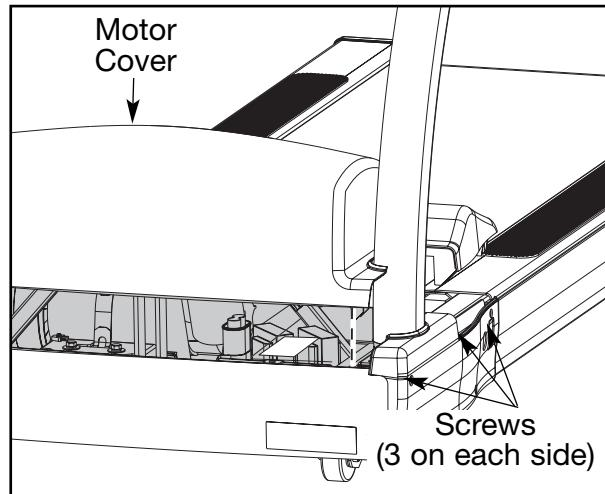

Figure 2
- Enter **Test Mode** by holding down any key on the display while turning the power switch to the on (I) position.
- Turn the main power switch on the left side to the off (O) position.
- Using a Phillips head screwdriver, loosen three screws on each motor cover side (left and right). See Figure 2.
- A.** Plug the treadmill back in and turn it to the on (I) position.
- A.** Lower the motor cover center into position. See Figure 2.
- E.** Press **Stop** and turn the power switch to the off (O) position.
- A. Using a Phillips head screwdriver, loosen three screws on each motor cover side (left and right). See Figure 2.
- B. Lift the motor cover center up and off the treadmill. The screws will stay in place. See Figure 2.
- A. Enter *Test Mode* by pressing and holding down any key on the display while turning the power switch to the on (I) position. When the key is released “TEST” and the software revision “rx.x” are shown on the display.
- A. Turn the main power switch on the left side to the off (O) position.
- A. Using a Phillips head screwdriver, loosen the three screws on each motor cover side (left and right). See Figure 2.
- B. Lift the motor cover center up and off the treadmill. **NOTE:** The screws will stay in place. See Figure 2.